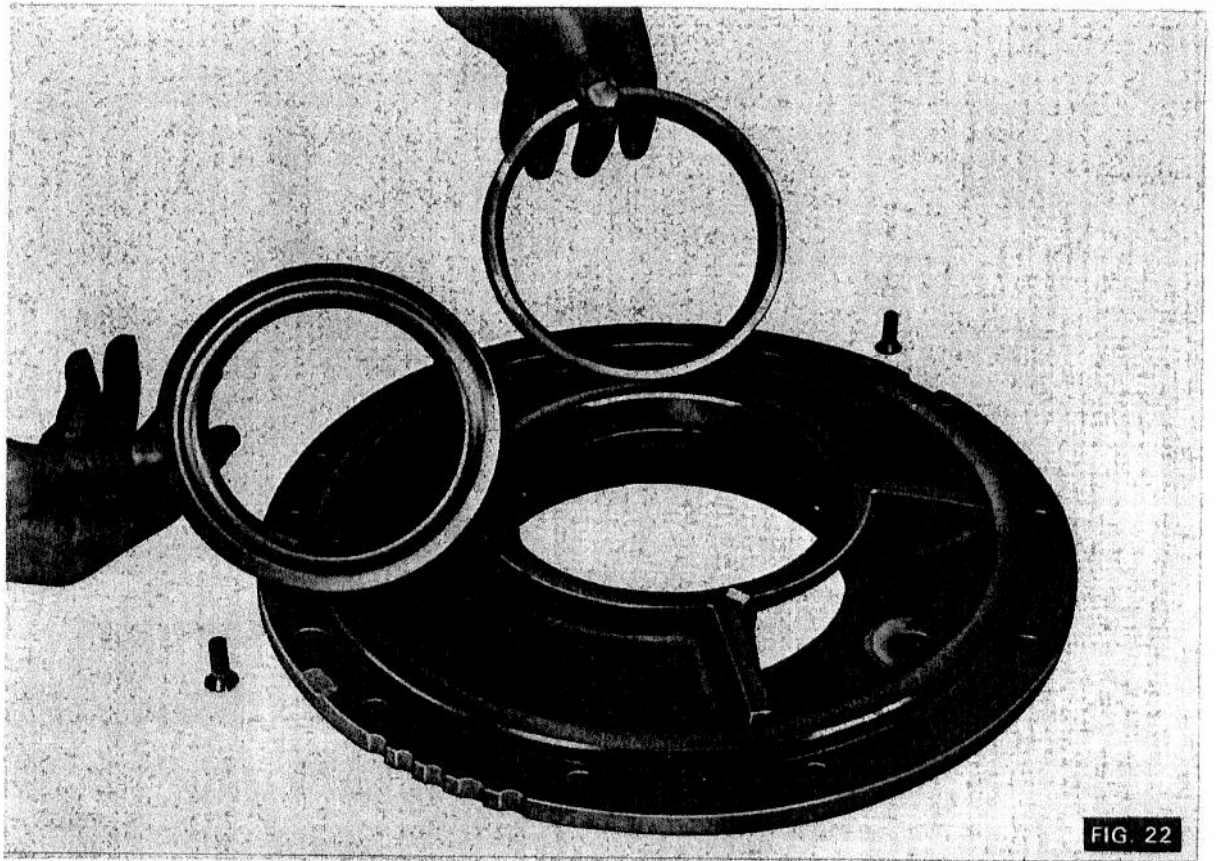

FIG. 22
4. (Fig. 22) Fit new shield to the carrier plate.